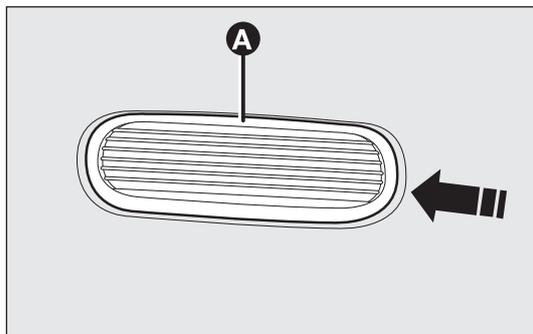

fig. 147
- push the lamp lens A-fig. 147 in the car running direction (it is pressure-fit);